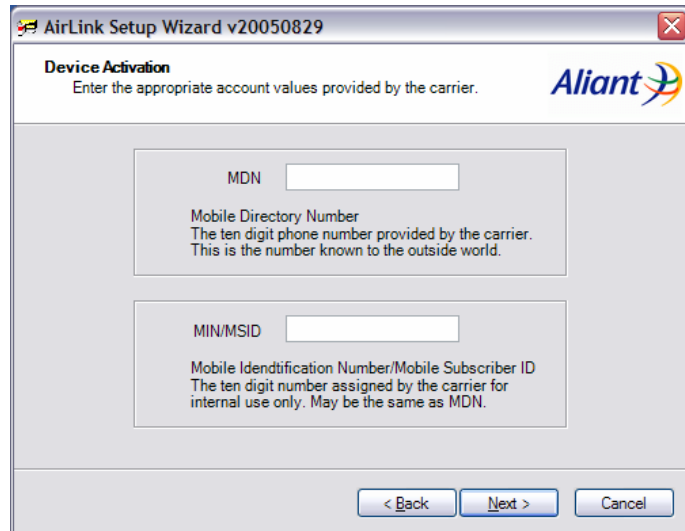

Figure 8 – MDN Field
6. Enter the 10 digit phone number provided by the carrier in the MDN field, shown in Figure 8 – MDN Field. The number will be echoed in the lower field.